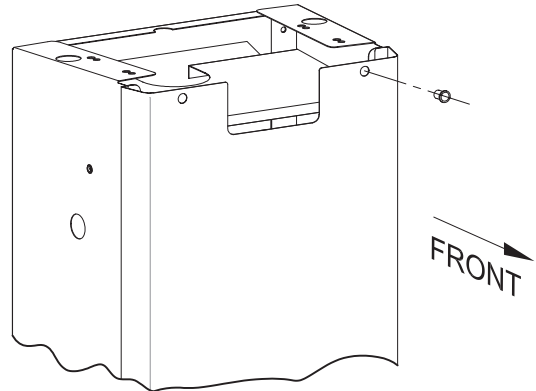

Figure 8
7. Insert busing in the front panel on the right for P and H series and on the left for R and T series grills. See Figure 8.